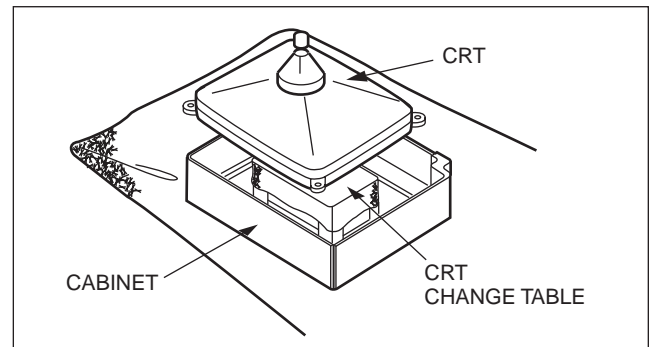

Fig.6
- (4) After 4 screws have been removed, put the cabinet slowly on cloth (At this time, be carefully so as not to damage the front surface of the cabinet) shown in Fig. 6.